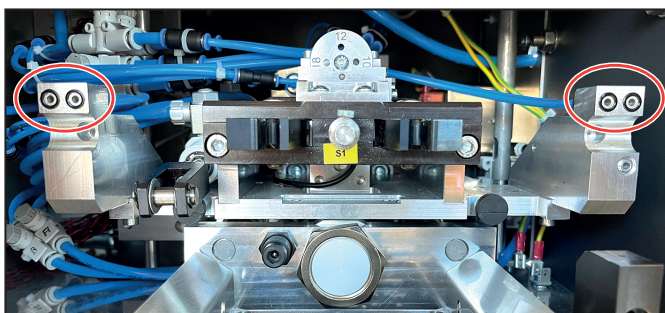

Figure 8.7 Checking the O-rings
- Check that all four O-rings are present on the mounting strips (see Bild 8.7).
The O-rings may have stuck to the tool unit. Reposition all O-rings as shown in Bild 8.7.